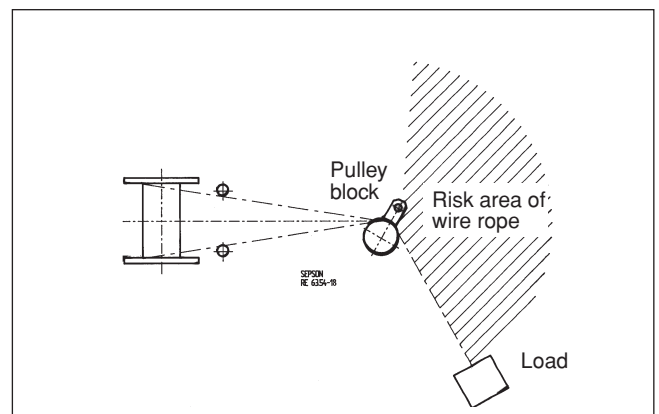

Fig 18 Risk area
- Allow no one to stand inside the risk area of the rope when the winch is operating. See fig 18.